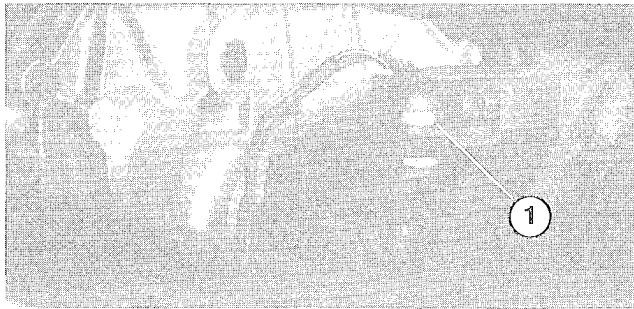

Figure 56
7. Recheck clutch safety switch adjustment (Fig. 56). Engine must not crank unless clutch pedal is $1.25" \pm .25"$ from floor. If an adjustment is required, loosen switch jam nuts and adjust up or down.